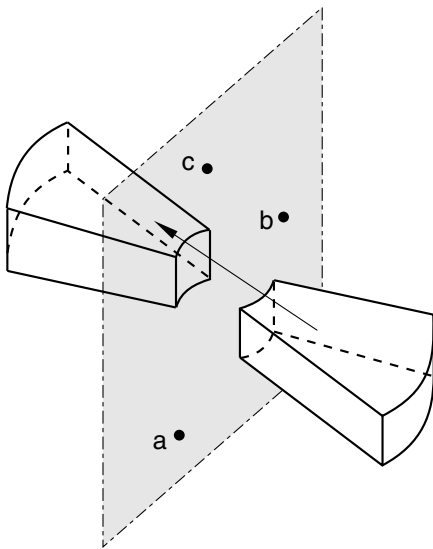

Figure 2: Substructure reflection. Points a , b , and c cannot be colinear.
1. Global X-coordinate of point *a* in the plane of reflection (see Figure 2).